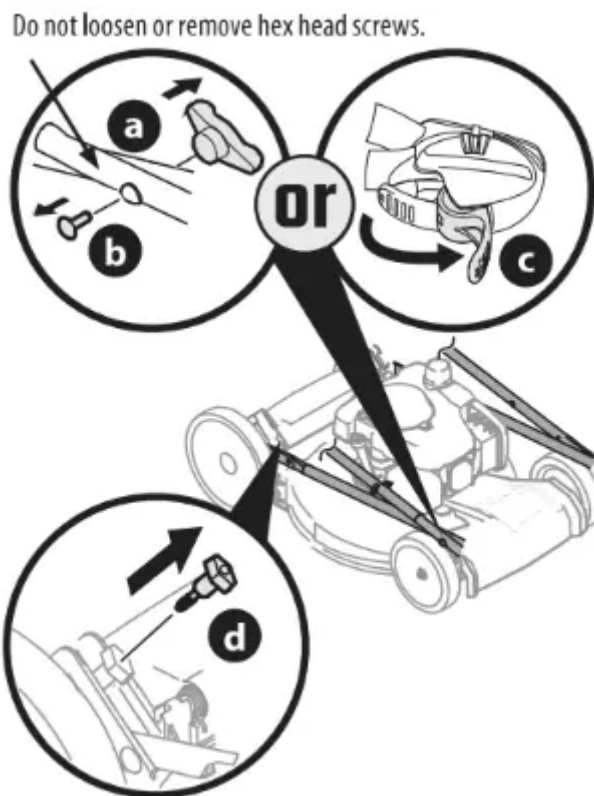

Figure 6
2. Remove the T-bolts (d) from the handle brackets (Figure 6).